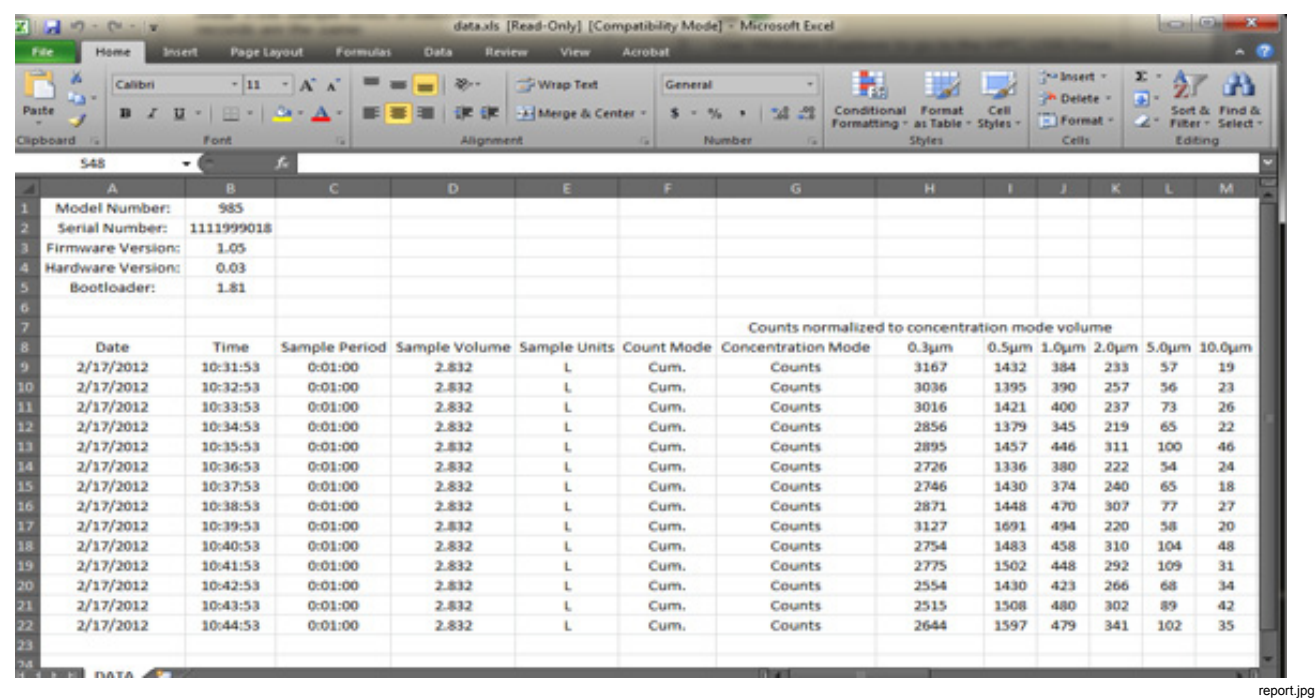

Figure 5. Exported Data
The Product stores collected data in flash memory. The data is stored until the data is cleared and is retained when the Product is off. Data can be moved to a PC or laptop with a USB cable, a flash USB drive, or transmitted through an Ethernet connection. A sample report, seen in Excel, is shown in Figure 5.
3. Windows Explorer will open and show you the Data.tsv file icon. Right click on the file and open it with Excel or a text editor. A sample report, seen in Excel, is shown in Figure 5.
2. On the drive, there will be a Data.tsv file. Double click the file open it. The file can be opened with a text editor or Microsoft Excel. A sample report, seen in Excel, is shown in Figure 5. Note that each time you download data to the drive, previously downloaded data is overwritten.
2. Double-click the file open it. The file can be opened with a text editor or Microsoft Excel. A sample report, seen in Excel, is shown in Figure 5.